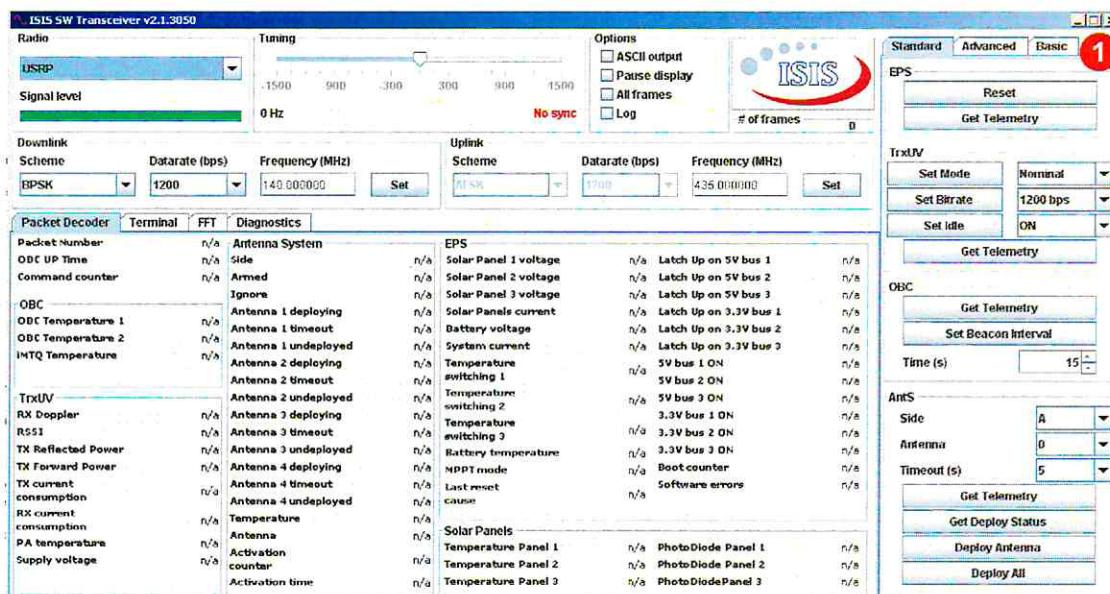

Figure 6.1: ISIS Checkout box main window
ISIS Checkout box can be controlled through its GUI, which is represented in Figure 6.1. The main available controls are highlighted in the Figure and are better detailed in the next paragraphs.
**Uplink panel:** this panel is used to send commands to the satellite (item 1 in Figure 6.1). When a new command has been sent, it will also be displayed in the Terminal panel.